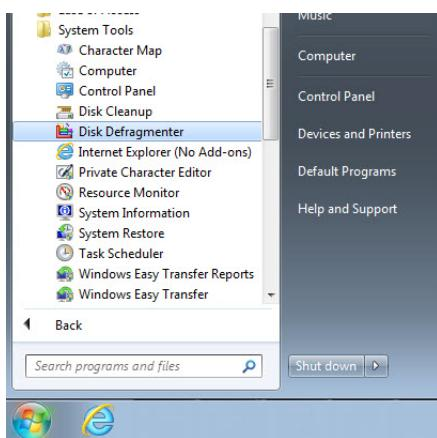

Figure 2-12. Deactivating automatic defragmentation (A)
- 1 Click *Start* and choose **All Programs > Accessories > System Tools > Disk Defragmenter** (see Figure 2-12).